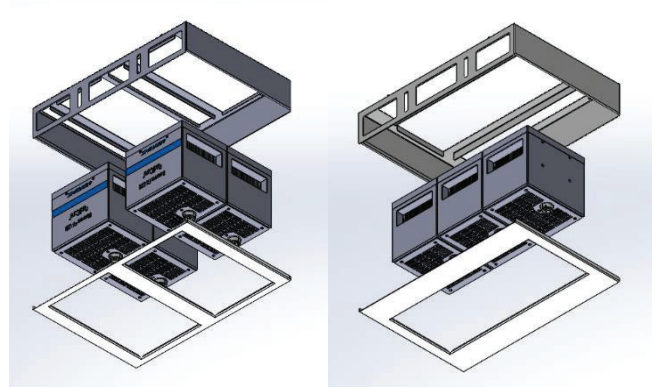
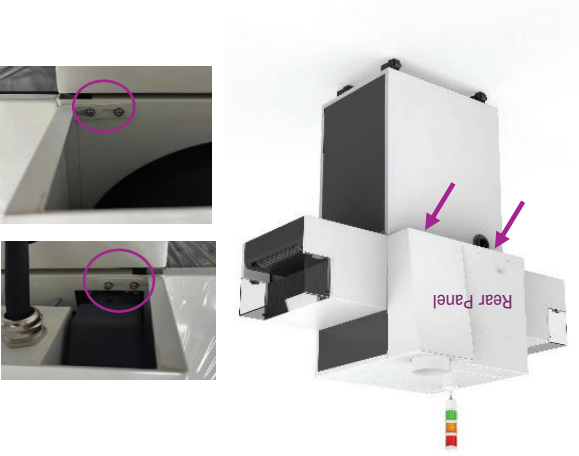

Figure 12. Emitter Placement
Figure 13. Loosen the Screws Under the Rear Panel, Where the Lower Cabinet is Connected
- 3) Place the emitter on a cradle, such as its shown in Figure 12. Complete wiring as required. (Figure 13 - Figure 19)